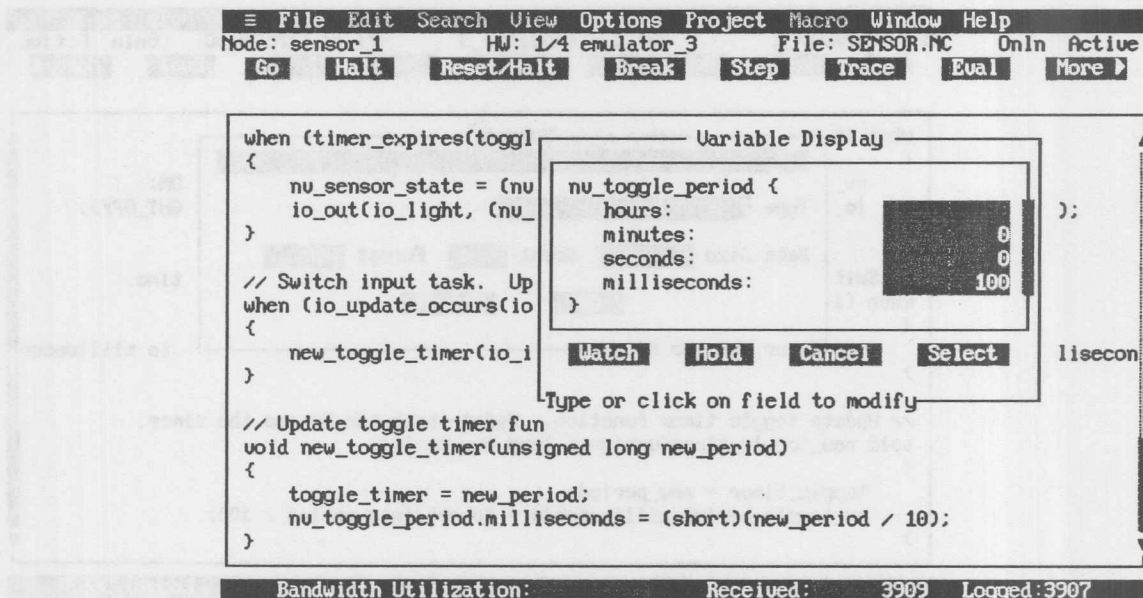

Figure 8-5. Variable Display Dialog Box
- 4 Select the OK command button to open the Variable Display dialog box displaying the current value of the variable (see figure 8-5).